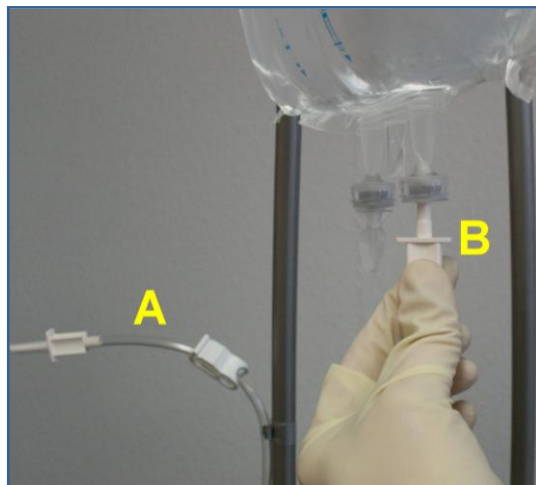

Fig. 4-21: Connect the transfer tube to the fluid bag
Remove the protection cap from the pricking pin of the second transfer tube (B) and prick it into the liquid bag to be used first (Fig. 4-21). The clamp of this transfer tube (B) remains open.